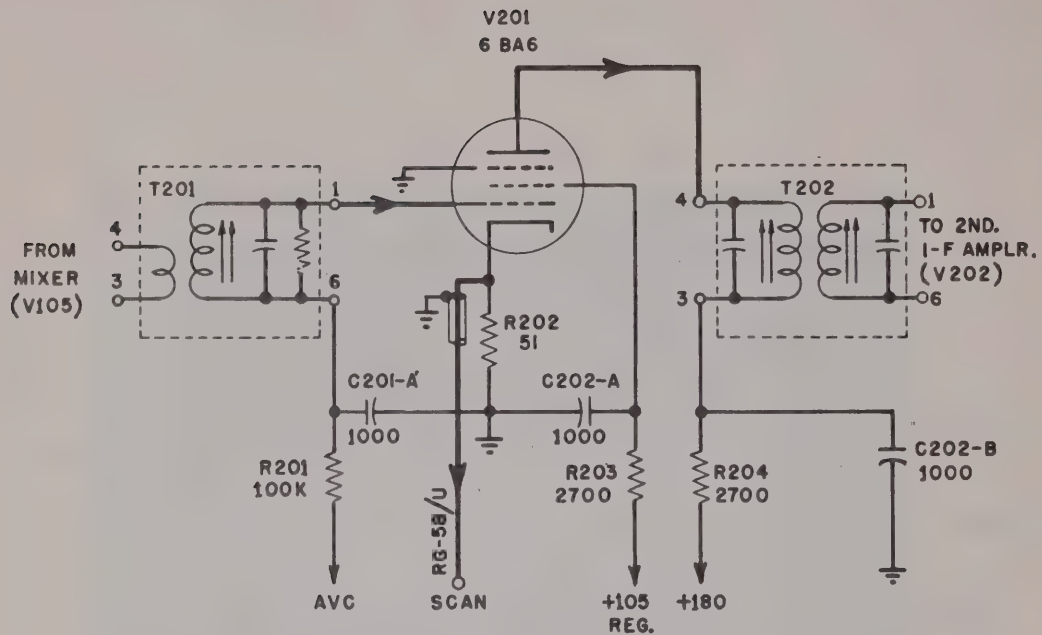

Figure 2-7. Simplified Schematic—First I-f and Scan Channel Amplifier
(1) **FIRST I-F AND SCAN CHANNEL AMPLIFIER.** A type 6BA6 remote cut-off pentode (V201) is arranged as a split-load amplifier; the tube functions as both the first i-f amplifier and as a cathode follower to provide output for a scanning channel indicator (panoramic adapter). The cathode resistor, R202, is not by-passed, so that the r-f voltage developed across it may be utilized as the scanning channel output (figure 2-7). The scanning output is taken from resistor R202, brought through connector P201 on the IF/AF chassis to jack J406 on the base plate of the cable filter (Band Suppression Filter F-89/URR-13), and then routed through a short piece of coaxial cable to the SCAN output jack (J403) on the rear of the filter.